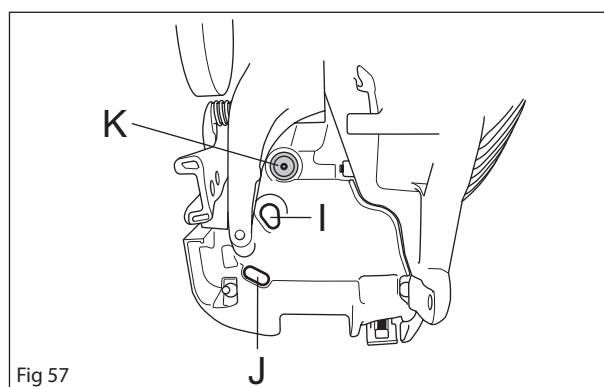

Fig 57
1. Thread the throttle cables in the connection K as outlined in figure 57. NOTE! The figure is shown from underneath.
2. Run the fuel hose C through hole I and hoses B in hole J. See figure 57. Pull the hoses so that the collars are on each side of the bottom on the carburettor compartment.